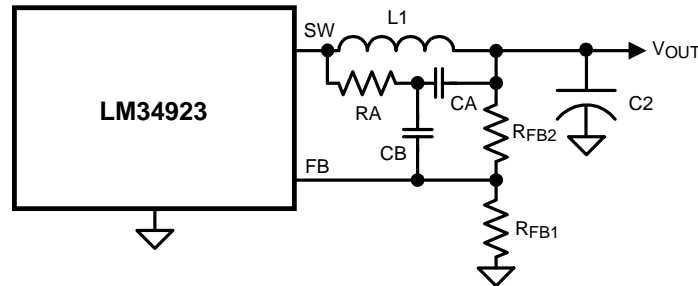

Figure 37. Minimum Output Ripple Using Ripple Injection
b) Minimum ripple configuration: If the application requires a lower value of ripple (<10 mVp-p), the circuit of Figure 37 can be used. R_3 is removed, and the resulting output ripple voltage is determined by the inductor's ripple current and C_2 's characteristics. R_A and C_A are chosen to generate a sawtooth waveform at their junction, and that voltage is AC-coupled to the FB pin via C_B . To determine the values for R_A , C_A and C_B , use the following procedure: